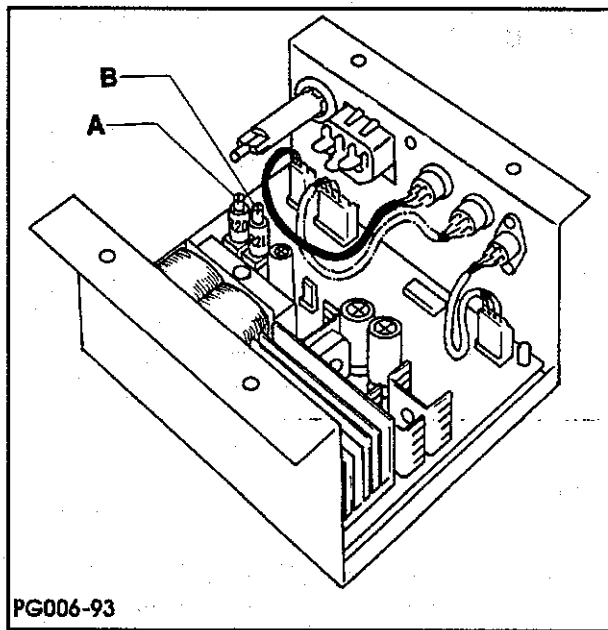

FIG. 21
3. Potentiometer R20 (A Fig. 21) controls the stepping motor current while stepping. If the elastic is not consistent throughout the speed cycle (slow speed to high speed) the current should be increased by turning Potentiometer R20 (A) clockwise, generally in $1/8$ turn increments, until the desired look is obtained.
- Potentiometer R21 (B, Fig. 21) controls the stepping motor current while at rest and should not allow the elastic to be pulled back through the rollers before the next garment is started. If the elastic pulls back through the rollers when the stepping motor is at rest the current should be increased by turning Potentiometer R21 (B) clockwise, generally in 1/8 turn increments, until the desired holding of the elastic is obtained.